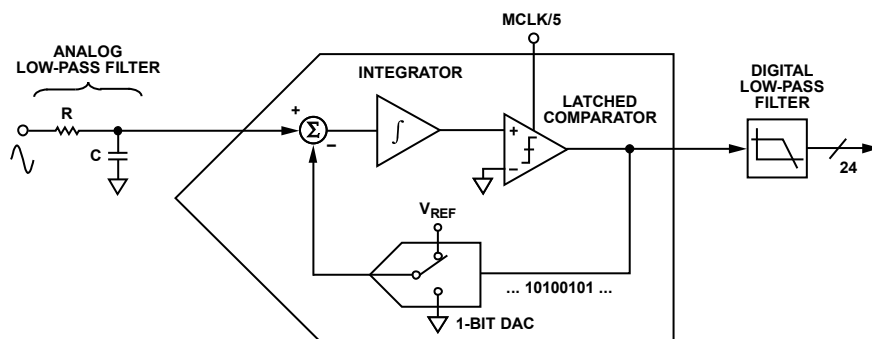
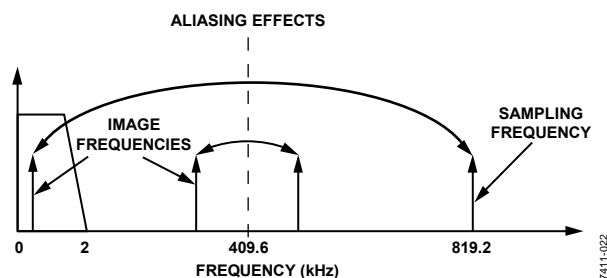

Figure 44. First-Order  $\Sigma$ - $\Delta$  ADC
Figure 45. ADC and Signal Processing in Current Channel Outline Dimensions
For simplicity, the block diagram in Figure 44 shows a first-order  $\Sigma$ - $\Delta$  ADC. The converter is made up of the  $\Sigma$ - $\Delta$  modulator and the digital low-pass filter (LPF).
Figure 44 also shows an analog LPF (RC) on the input to the modulator. This filter is present to prevent aliasing, an artifact of all sampled systems. Aliasing means that frequency components in the input signal to the ADC that are higher than half the sampling rate of the ADC appear in the sampled signal at a frequency below half the sampling rate. Figure 45 illustrates the effect. Frequency components (the black arrows) above half the sampling frequency (also known as the Nyquist frequency, that is, 409.6 kHz) are imaged or folded back down below 409.6 kHz. This happens with all ADCs, regardless of the architecture. In Figure 45, only frequencies near the sampling frequency (819.2 kHz) move into the band of interest for metering (40 Hz to 2 kHz). This allows the use of a very simple LPF to attenuate high frequency (at approximately 819.2 kHz) noise and prevents distortion in the band of interest.
For conventional current sensors, a simple RC filter (single-pole LPF) with a corner frequency of 10 kHz produces an attenuation of approximately 40 dB at 819.2 kHz (see Figure 45). The 20 dB per decade attenuation is usually sufficient to eliminate the effects of aliasing for conventional current sensors. However, for a di/dt sensor such as a Rogowski coil, the sensor has a 20 dB per decade gain. This neutralizes the -20 dB per decade attenuation produced by one simple LPF. Therefore, when using a di/dt sensor, care should be taken to offset the 20 dB per decade gain. One simple approach is to cascade two RC filters to produce the -40 dB per decade attenuation needed.